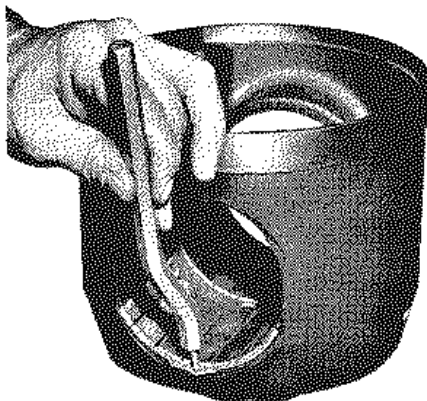

Fig. 5-14 - Piston Pin Bearing Insert Installation
11. Using an indenter tool, Fig. 5-14, strike the center of the tangs to bend them into the carrier counter bore.